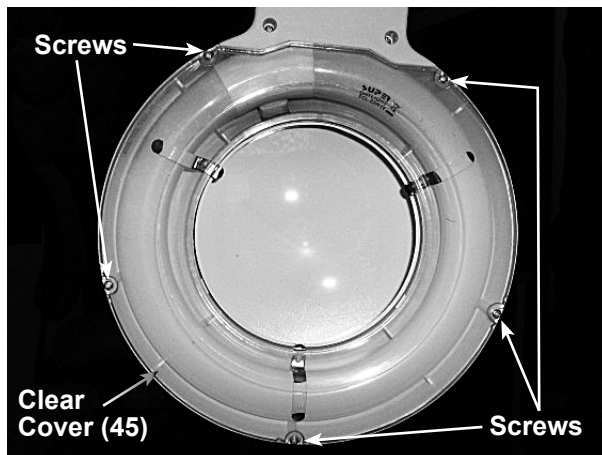

Fig. 3 / Lamp Head Assembly
3. Use a #1 Phillips screwdriver (not included) to remove the five Screws (48) from the Clear Cover (45). (See Fig. 3.)
4. Lift the Clear Cover (45) away from the Lens Frame (34). **Please note:** The Bulb Clips also hold the 5" Lens in place, so when removed, the Lens is loose and could fall out if the lamp head is turned over.